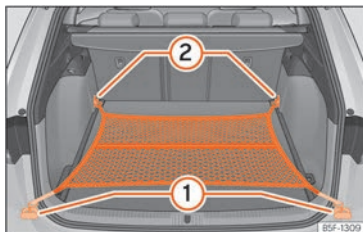

Fig. 119 In the luggage compartment: net bag hooked up at floor level.
- Secure the net hooks to the fastening rings (1) and (2) »» Fig. 119 »» ⚠. The bag zip should be facing upwards.